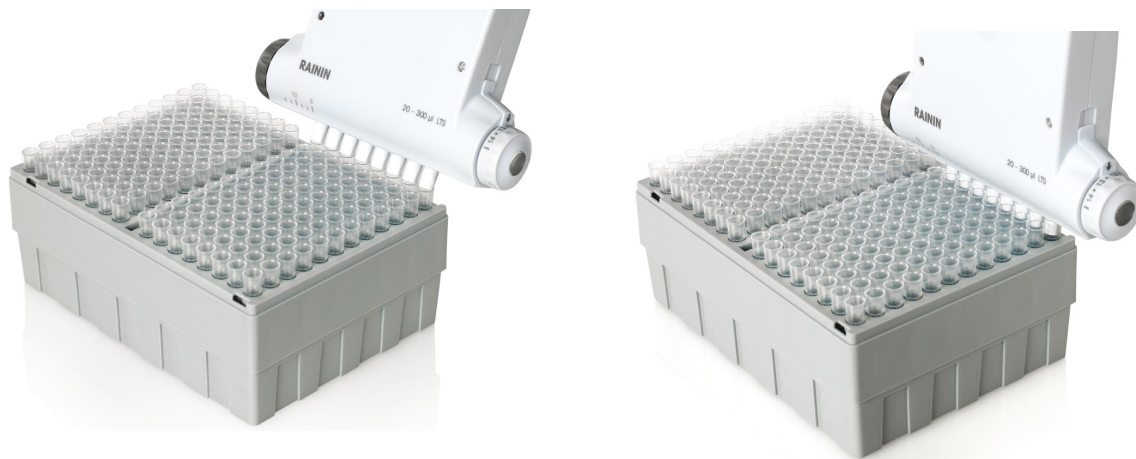

Figure 37: Mounting LTS Tips
2. Align the nozzles into the row of tips, holding the pipette at a slight angle (Figure 37 left).
The tips are now mounted with proper sealing. There is no need to hand-tighten, use heavy pressure, or rock the nozzles onto the tips to obtain a good seal. Withdraw the tips from the tip rack (Figure 37 right).